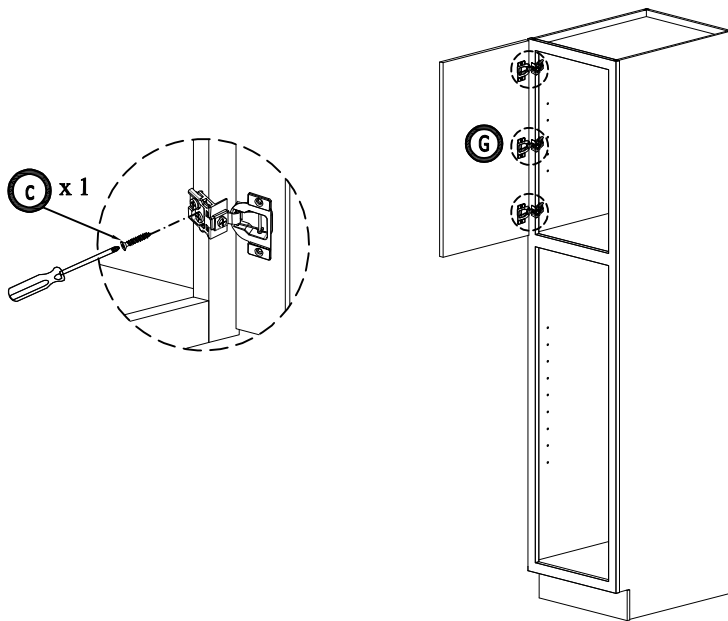

Figure 9
10. Assemble below door with hinges to left or right of cabinet frame by 4 screw 4/5" (Figure 9)